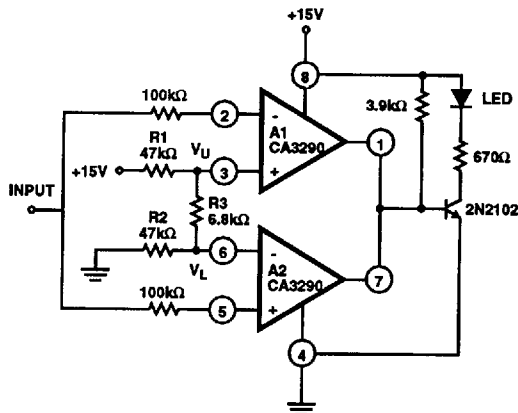

FIGURE 14. WINDOW COMPARATOR
Both halves of the CA3290 can be used in a high input impedance window comparator as shown in Figure 14. The LED will be turned "on" whenever the input signal is above the lower limit (VL) but below the upper limit (VU), as determined by the R1/R2/R3 resistor divider.